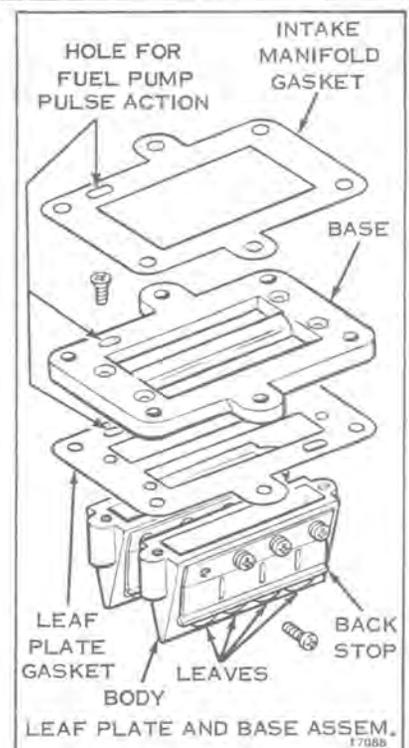

Figure 6-9
- c. Inspect the leaf valve assembly and disassemble if necessary (see Figure 6-9). Special caution is necessary in disassembling the leaf valve assembly. DO NOT damage or interchange the leaves.